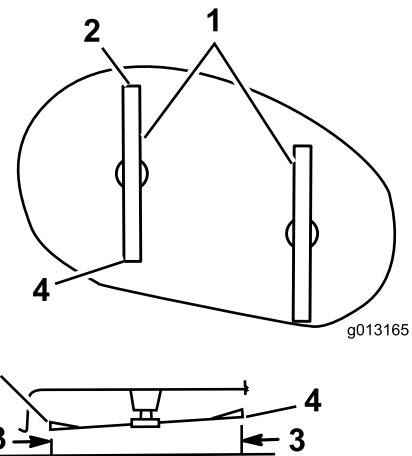

Figure 48
Carefully rotate the blades front to rear (Figure 48).
- Measure the distance between the front tip of the left blade and the flat surface (Figure 48).